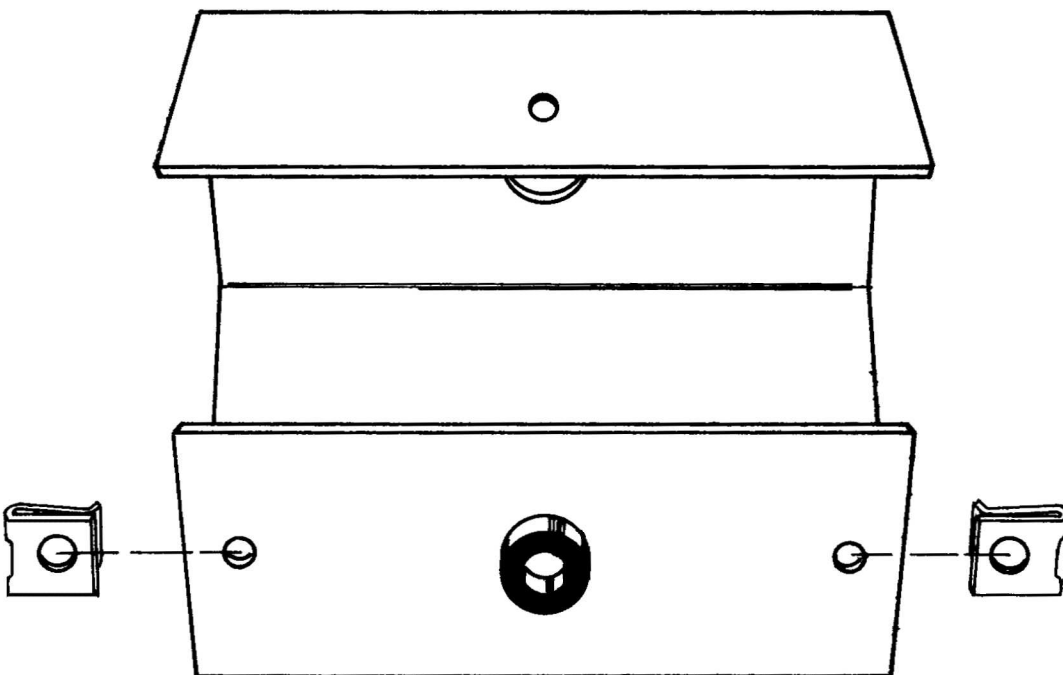

Figure 1
- ( ) Snap the two speed-nuts on the chassis rear apron, with the flat surface toward the rear. Refer to Figure 1 for details of installation.